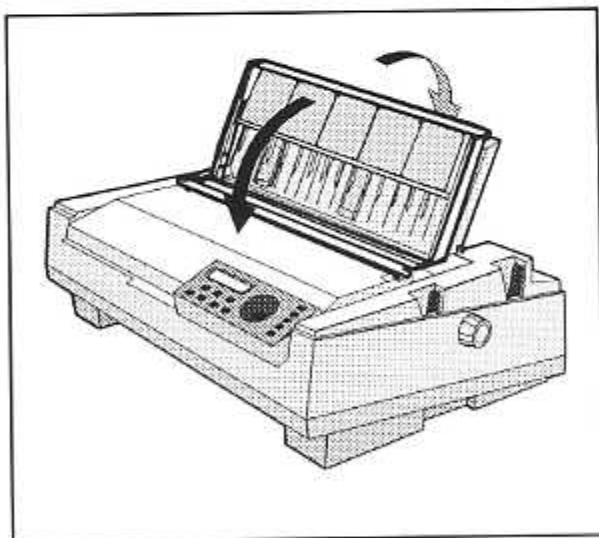

Figure 3-10. Positioning the Sound Window
- ✓ With the paper support raised, the sound window should rest lightly against it, as shown in figure 3-10. *Do not* press the window over the sides of the paper support, since this obstructs the paper path.